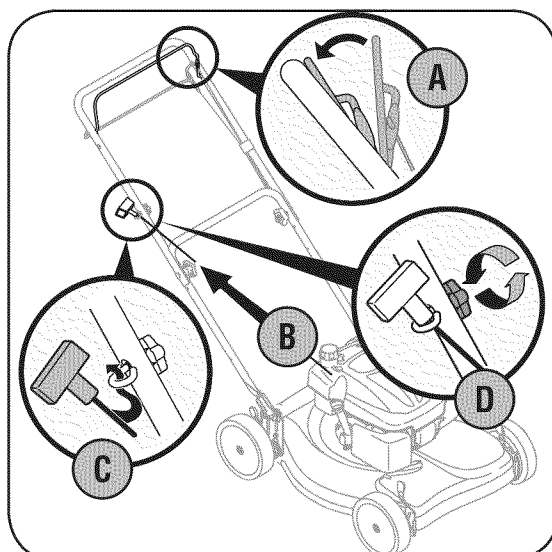

Figure 3-3: Pull recoil starter through rope guide and tighten.
3. The rope guide is attached to the right side of the upper handle. Loosen the wing nut which secures the rope guide. Refer to Figure 3-3.